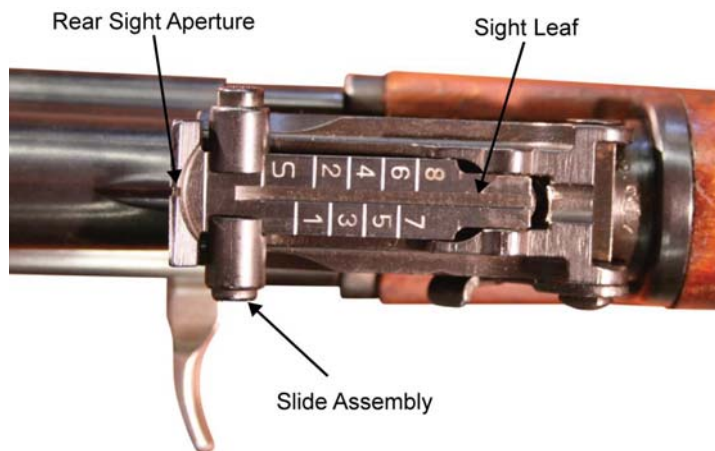

Figure 4. The Rear Sight with the Slide Assembly set on “S”.
4. **Rear Sight**. Refer to Figure 4.